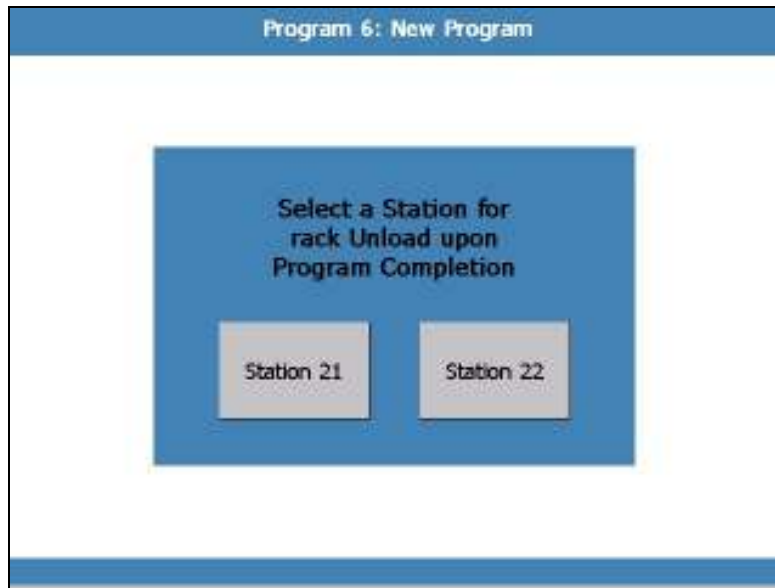

Figure 0-8: Unload Station Selection Screen
18. Racks may be unloaded at Station 21 and 22. To program the station at which racks are unloaded, select **Unload Station** from the Program Steps Summary Screen. The following screen shown in Figure 0-8 will be displayed.